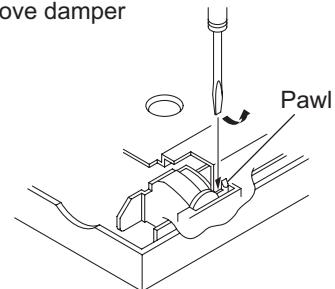

Fig.7
3.1.5 Removing the mechanism holder and door assembly (Fig.7, 8)
Insert an originary (-) screwdriver or the like in to the gap between the damper and the front panel to disengage the pawl, and draw the damper assembly outwards. (See Fig.7)